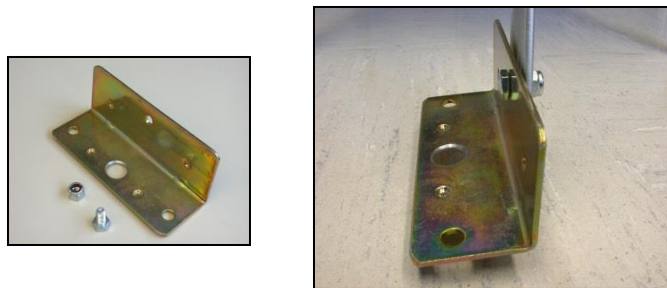

Figure 14: The TP1 Tripod Kit includes the nut and bolt (left) used to attach each foot to the tripod
1. Attach tripod feet to the legs of the tripod using the bolts and self-locking nuts provided (Figure 14).